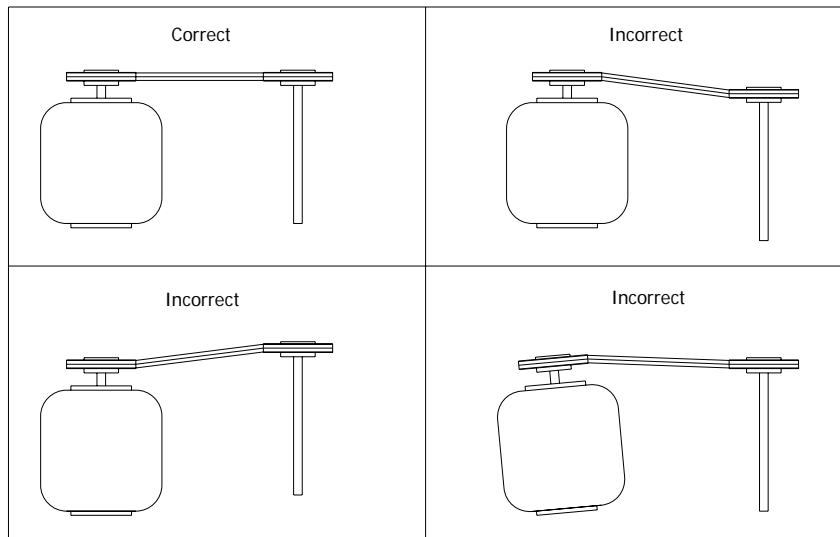

Figure 4
- D. Ensure pulleys are properly aligned. See Figure 4.
Pulley alignment is adjusted by loosening the motor pulley setscrew and by moving the motor pulley on the motor shaft or by moving the entire motor mounting bracket. Figure 4 illustrates correct and incorrect pulley alignment. A recommended method of inspecting the pulley alignment is using a carpenter's square and putting the shorter leg along the case of the motor and adjusting the pulley until the other leg of the square is parallel to the belt.